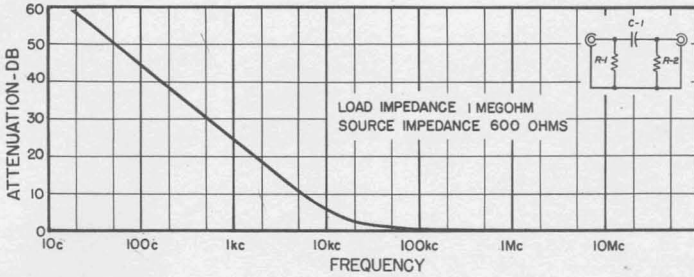

Figure 6.
**Attenuation Characteristics:** See Figure 6.
**2.3 USE WITH FILTERS.** For measurements above 10 kc, the Type 1212-P1 (Figure 5) is recommended for elimination of low-frequency noise and hum. Attenuation characteristics are shown in Figure 6.